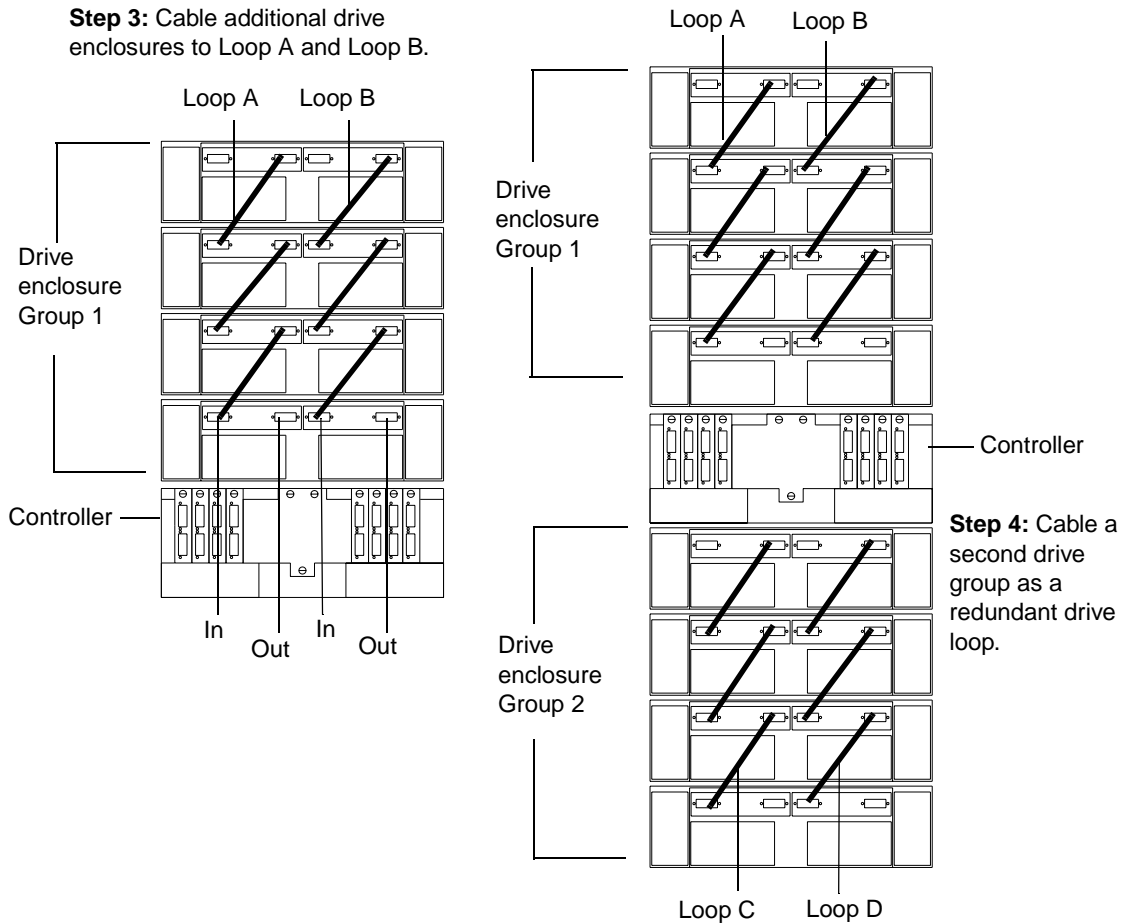

Figure 20. Connecting a second redundant drive loop
- 3 Connect additional drive enclosures to drive Loops A and B, as shown in Figure 20.
- 4 Repeat Step 1 through Step 3 to cable a second drive group (Loop C and Loop D on Drive Group 2) in the same manner, as shown in Figure 20. When you finish, go to "Connecting drive cables to the controller unit" on page 33.